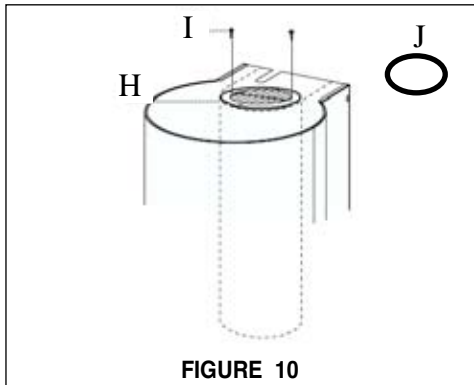

FIGURE 10
3. Install the ductless grille and then the stainless ring above it with 2 screws (**H, I, J in FIGURE 10**).